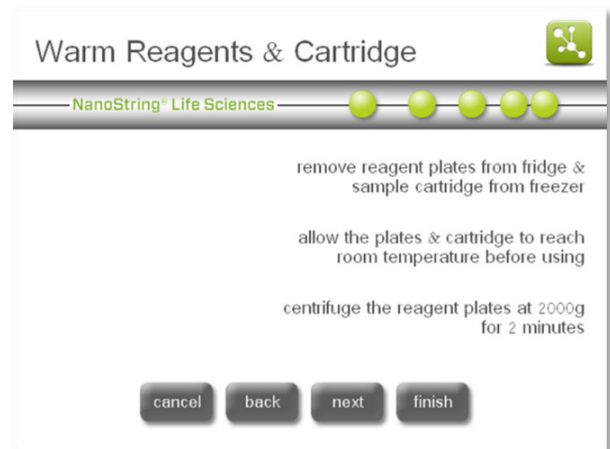
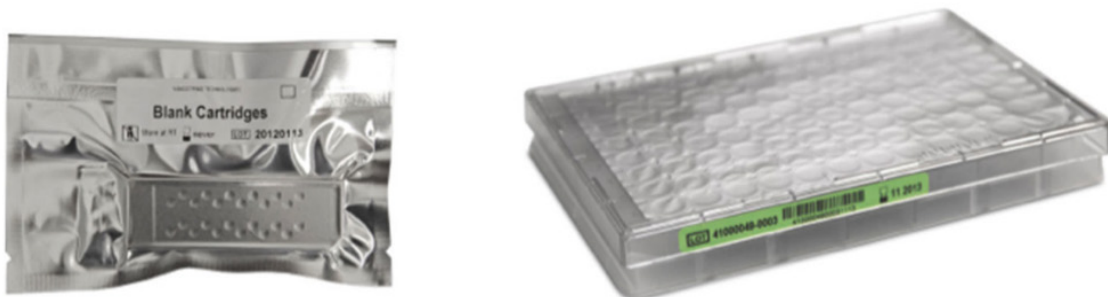

Figure 16: The 'Warm Reagents & Cartridge' screen.
Figure 17: A sealed cartridge (left) and reagent plate ('prep plate') (right).
5. The 'Warm Reagents & Cartridge' screen will appear (**Figure 16**). Cartridges and reagent plates (prep plates) (**Figure 17**) must be at room temperature prior to processing. Remove the prep plates from storage at 4°C and the nCounter Cartridges from storage at -20°C. Allow them to equilibrate to room temperature for 10-15 minutes.